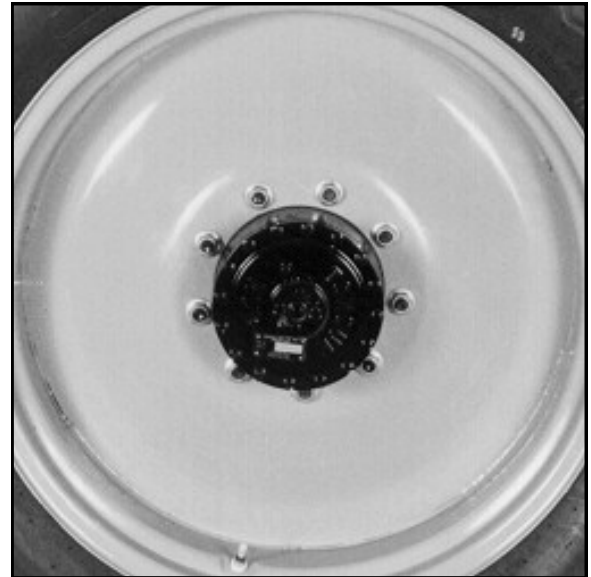

FIG 6.3
2. Disengage each Torque Hub[®] by removing two outer cap bolts, turning the outer cap with the extended center in towards the hub and re-installing the two outer cap bolts. This process pushes on a spring-loaded splined shaft, disengaging the Torque Hub[®] (fig. 6.3).